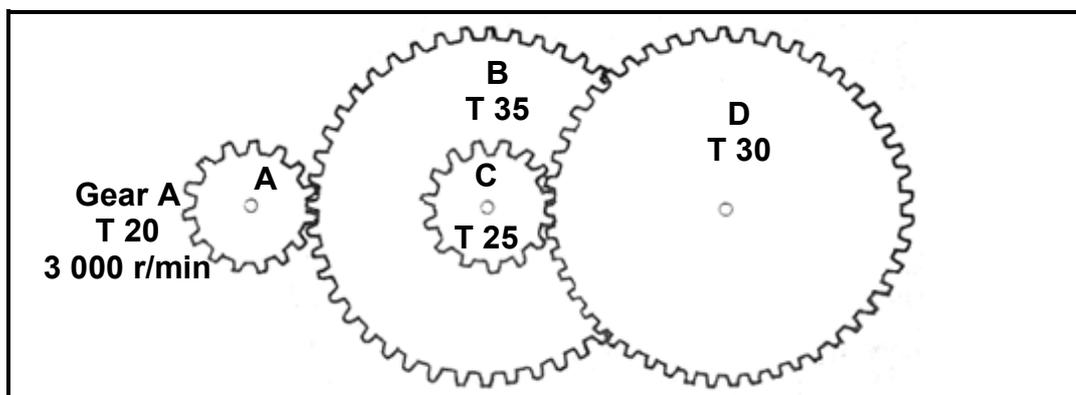

FIGURE 11.5
- 11.5 Study FIGURE 11.5 below. The gear box of a motor vehicle is in second gear. The input shaft rotates at 3 000 r/min. The input shaft is equipped with driver gear **A** with 20 teeth, which mesh with gear **B** with 35 teeth. The second acceleration gear **C** on the countershaft has 25 teeth and meshes with the final driven gear **D** with 30 teeth.